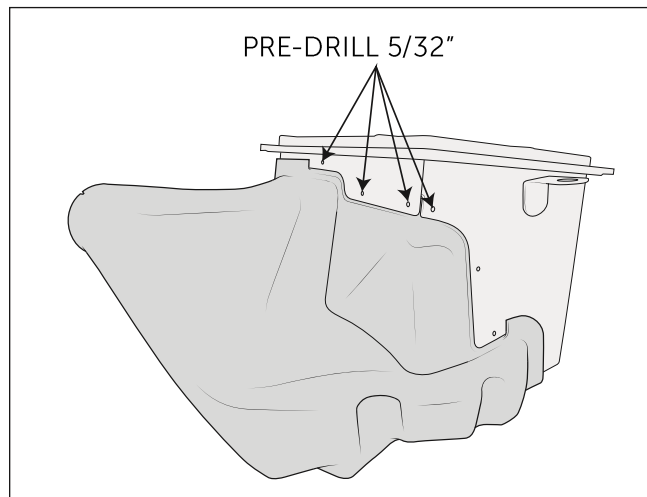

Figure 15
5. Fit the lower air box and plastic airbox connection together and pre-drill the four holes shown (fig. 15)
- A. The metal airbox should seat into the plastic airbox connection part installed in the previous step (see figs. 15 & 19).